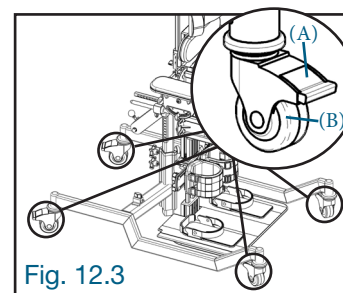

Fig. 12.3
12.3 WHEEL LOCKING (Fig. 12.3)